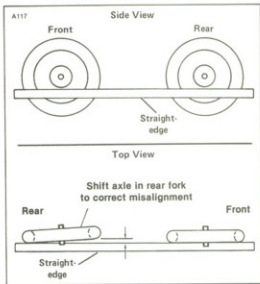

Figure 2-40. Wheel Alignment Diagram
1. See Figure 2-40. Place a straightedge against the front and rear tire sidewalls as far up towards the brake discs as possible.